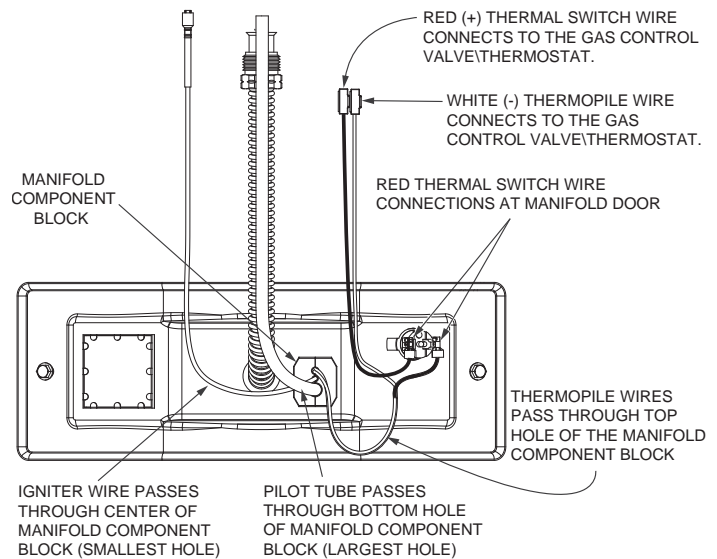

FIGURE 27.
9. Reinstall the manifold component block in the manifold door. Ensure that the pilot tube and wires are positioned as shown in Figure 27.